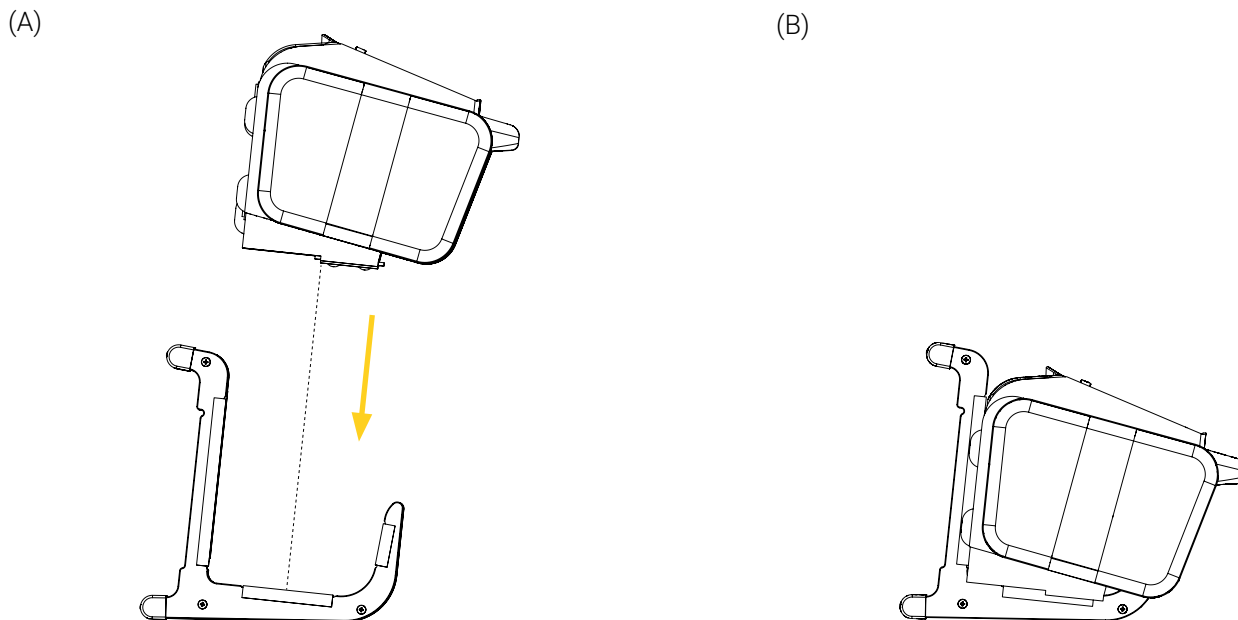

Figure 8: Installing the medical device in the support bracket
3. Insert and set the medical device on its back in the support bracket (Figure 8).